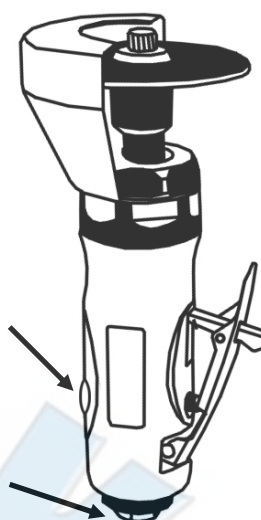

FIGURE 2
The air inlet (A) Figure 2. used for connecting air supply has standard 1/4 NPT Thread
On tools with regulators the air regulator (A) Figure 2. can be used as an air throttle. If there are no other means of regulating air.
Lubricate the air motor daily with a good grade of air motor oil. If no air line oil is used run a teaspoon of oil through the tool The oil can be squirted into the tool air inlet (A) Figure 2. or into the hose at the nearest connection to the air supply, then run the tool A rust inhibitive oil such as "Marvel Mystery" oil. available from